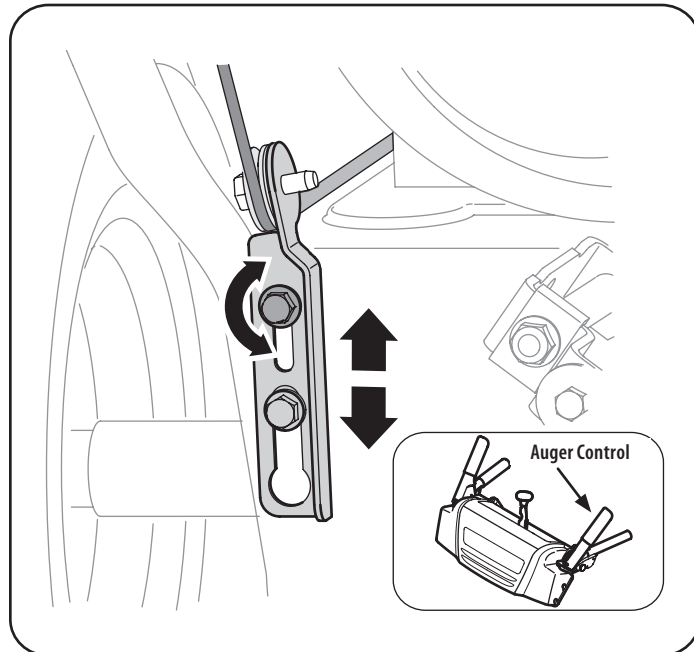

Figure 14
1. The auger control is located on the left handle. See Figure 14 inset. When the auger control is released and in the disengaged “up” position, the cable should have very little slack. It should NOT be tight.
4. Allow the auger to remain engaged for approximately ten (10) seconds before releasing the auger control. Repeat this several times.
6. To readjust the control cable, loosen the upper hex bolt on the auger cable bracket. See Figure 14.